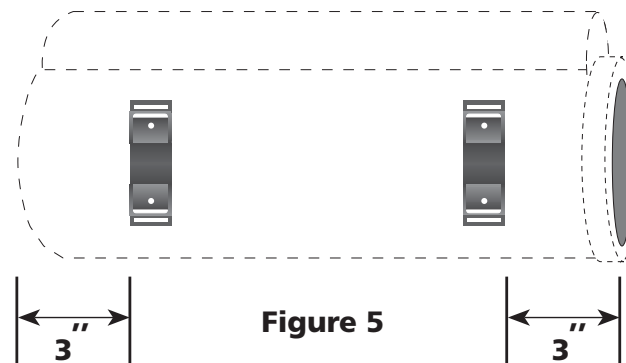

Figure 5
4. Move the bases so that they are spaced approximately 3" from each end of the enclosure as illustrated in figure 5.